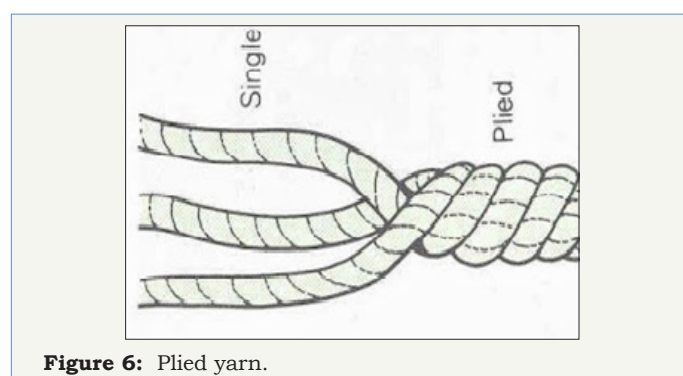

Figure 6: Plied yarn.
**Plied or folded yarn:** Plied yarns are composed by twisting two or more single spun yarns together. Two plied yarn is composed of two single yarns where three plied yarn is composed of three single spun yarns together. In case of producing ply yarns from spun strands, the separate yarns are all twisted in one way and then are twisted in reverse direction to make ply yarns. The number of strands those are twisted together to form the yarn is equal to the number of ply. If we untwist the plied yarns, we will get single yarns. Ply twist is the opposite of yarn twist. For an example, 80/2 (read as 80 double) means two yarns of 80 Ne those are plied or twisted together, resultant count is 40 Ne. As the same way, 60/3 (read as 60 triple) means three yarns of 60 Ne those are plied (3 plied) or twisted together, resultant count is 20 Ne (Figure 6 & 7).